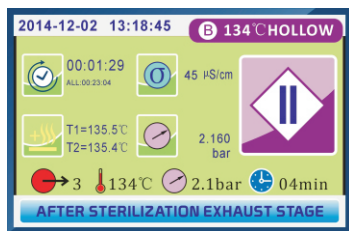

Fig.5.3-13
5.3.1.10. AFTER STERILIZATION EXHAUST STAGE(Fig.5.3-13)